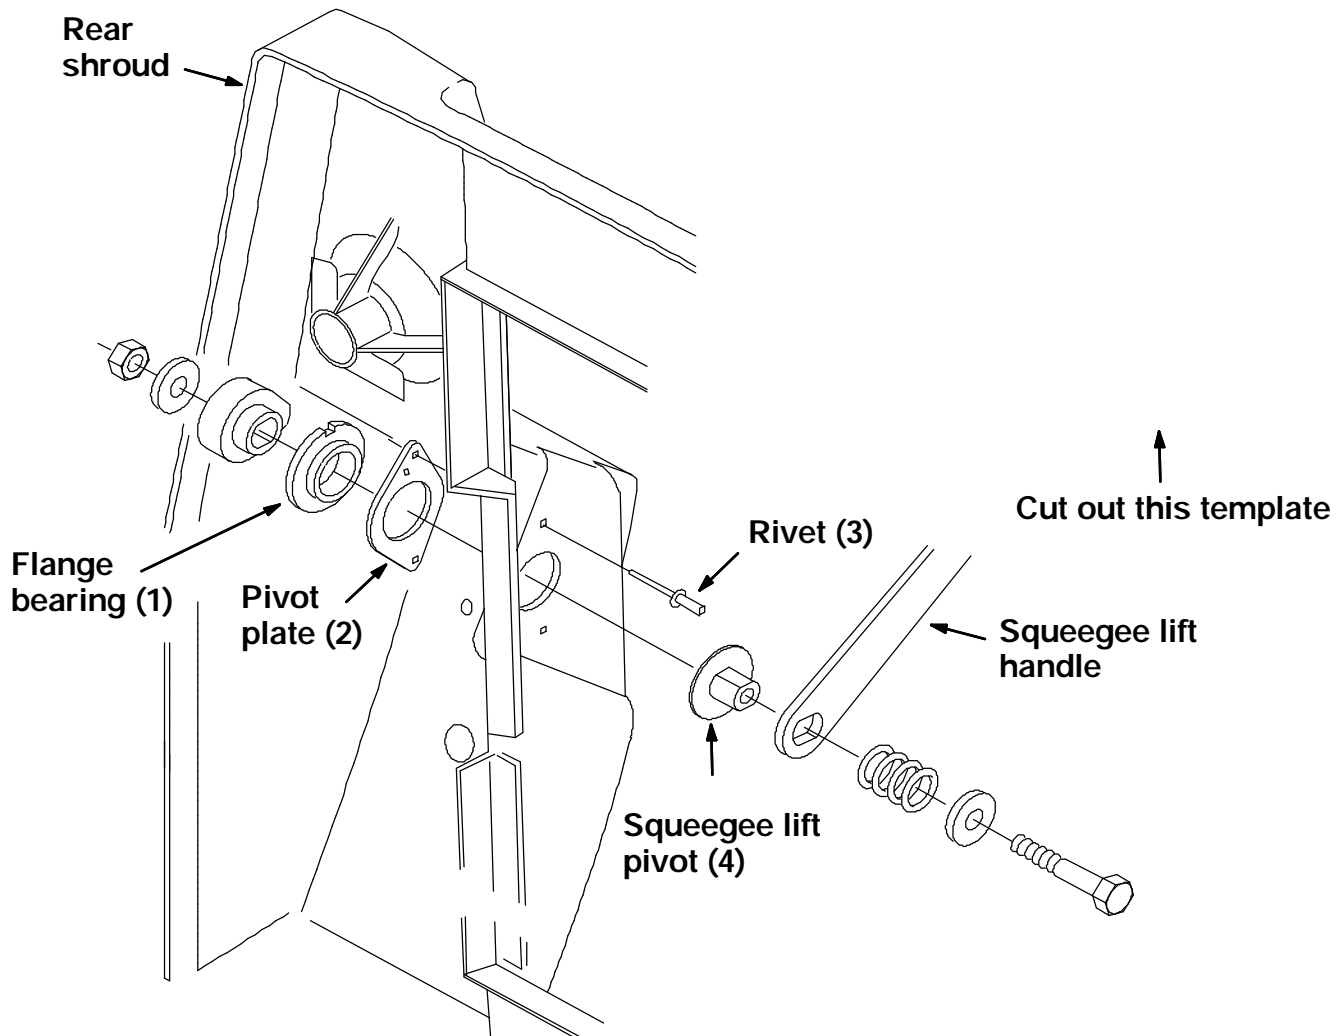

FIG. 1 - Squeegee Pivot Assembly
(Refer to FIG. 1)
3. Tilt the instrument panel assembly back until the lanyard strap is tight. (Refer to FIG. 1)
4. Remove the squeegee lift handle and bushings. (Refer to FIG. 1)
7. Use the template provided and center it over the 1 in. diameter hole in the shroud. (Refer to FIG. 1)
8. Use the .156 in. drill bit and a right angle drill or a small electric drill to drill two holes through the small holes in the template. Remove the template. (Refer to FIG. 1)
2. The notch in the bearing (1) should line up with the dimple on the plate (2). (Refer to FIG. 1)
3. Hold both parts in place while installing the two rivets (3). The bearing should move freely after installing the rivets. (Refer to FIG. 1)
4. Reinstall the squeegee lift handle on the machine. (Refer to FIG. 1)